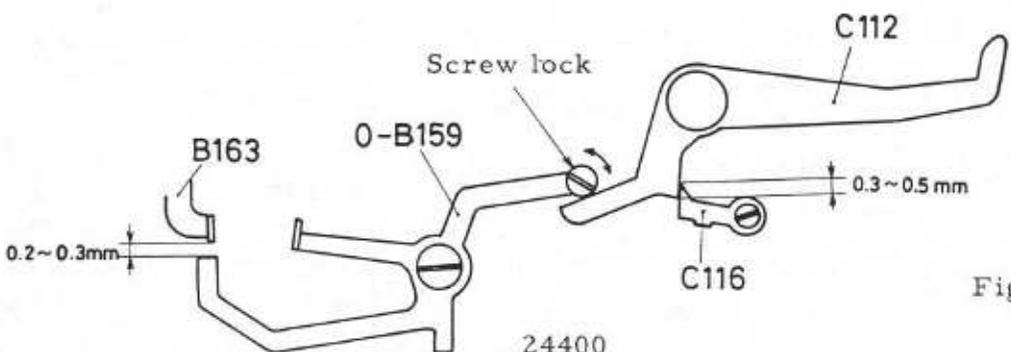

Fig. 24
- 22-2 Set the Hold lever (C116) by pushing up it by a finger as shown in Fig. 24 and then make the 0.2 - 0.3mm clearance between B163 and 0-B159 by turning the eccentric screw as shown in Fig. 24.